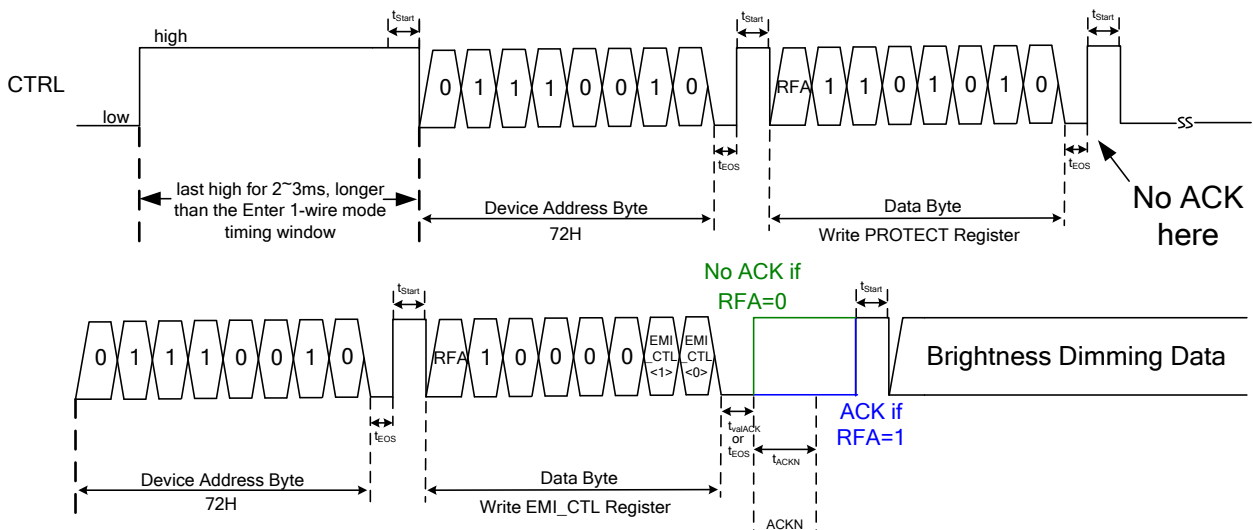

Figure 22 EMI_CTL Register Configuration Timing under PWM Mode
- c) the RFA bit of EMI_CTL Data Byte has been set to request an acknowledge. See FIGURE 22.